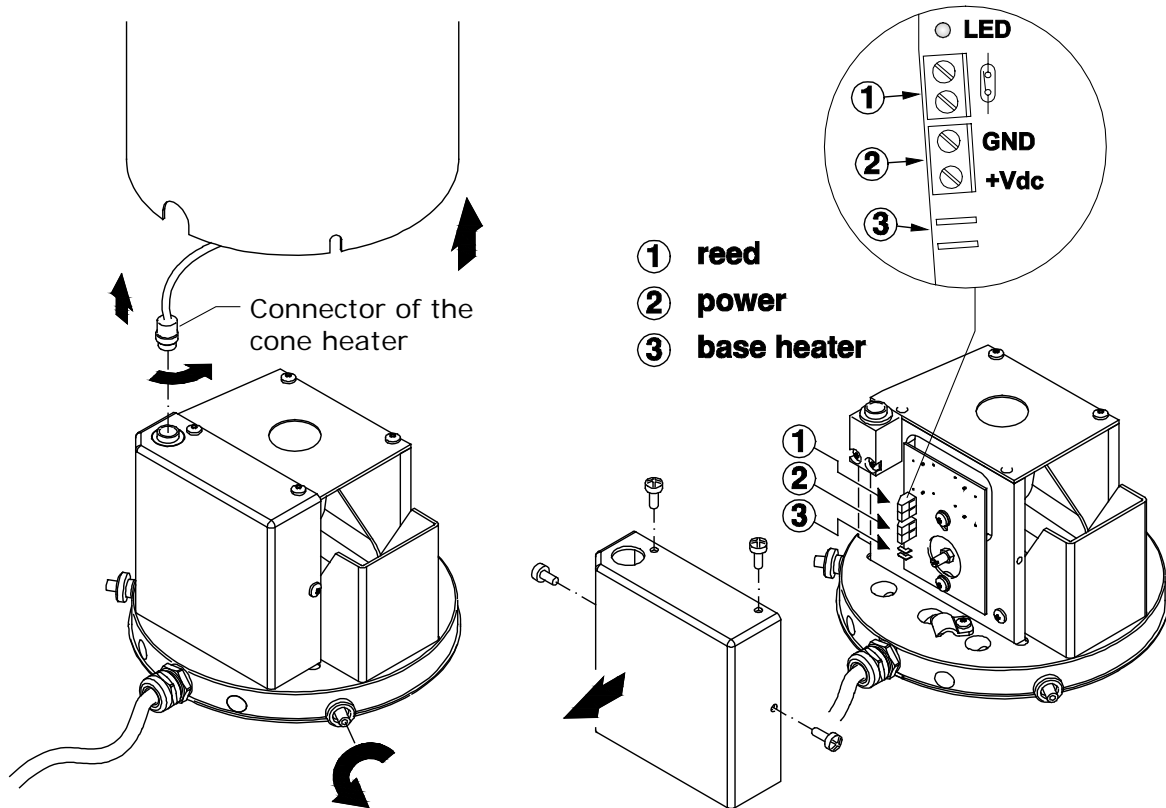

Fig. 3 – Connections of contact output and heating
**Attention:** a heating resistor is fitted around the cone in the heated version. To disconnect the cone heater, unplug the connector on the upper side of the terminal block protection cover (see fig.3).
The heated version requires power (12 Vdc or 24 Vdc depending on the version supplied) for the resistors: perform the connection as indicated at point 2 of fig.3.
The rain gauge contact output, indicated at point 1 in the figure 3, **must be connected to the input of the HD2013-DB rain gauge data logger** (please see the details in the manual of the data logger) **or to a pulse counter or to a data logger**.